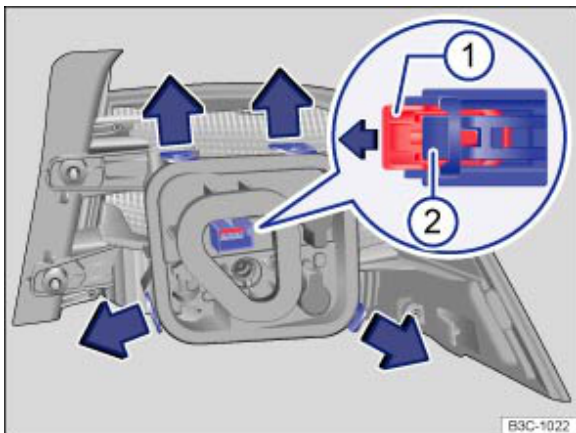

Fig. 249 Removing the bulb holder
6. Pull the release lever in the direction of the arrow → Fig. 249 ①.
7. Press the catch ② and pull out the connector.
9. To release the bulb holder, push the tabs → Fig. 249 in the direction of the arrows.
14. Pull the release lever against the direction of the arrow → Fig. 249 ①.